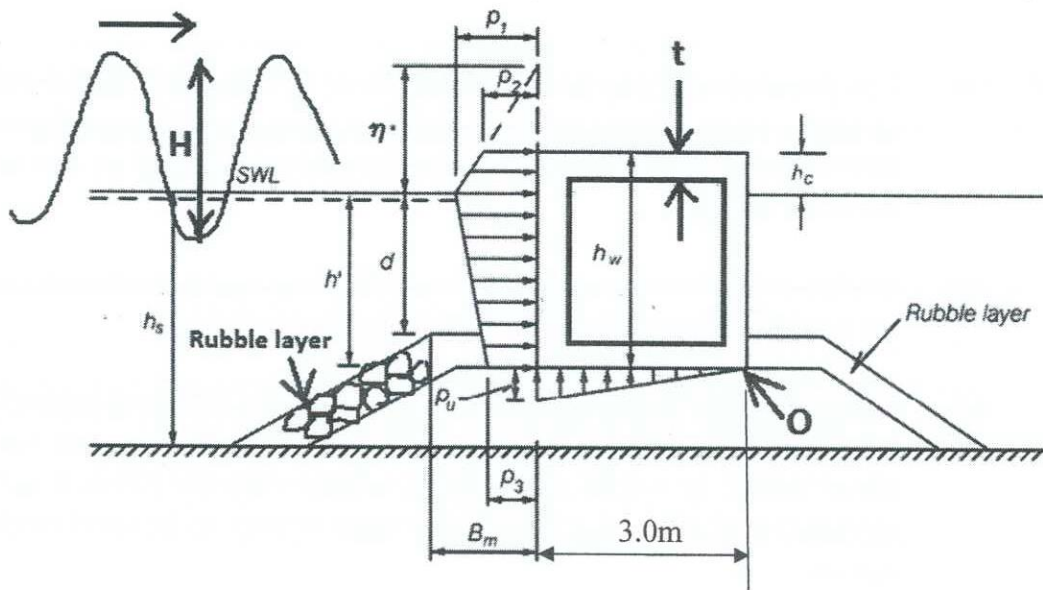

Figure Q2. Cross-section of a caisson breakwater
- Q2 (a) Figure Q2 shows a sectional view of a caisson breakwater supported on a rock (rubble) foundation. The design wave height H=3m and wave period T=8 sec. Water depth, h_s=h_b=10m. Height of the caisson, h_w=6m. The caisson structure projects 1m above the still water level (h_c=1m). The water depth in front of the Caisson, d=5m. Calculate dynamic wave pressure on the seaward face of the caisson p_1, p_2, p_3 and uplift pressure (p_u) using relationships given below. Assume the caisson width is 3m and length is 6m. Angle of wave incidence is zero (beta = 0). Wave length, L refers to the water depth of 10m. Wave Table is in the Appendix.